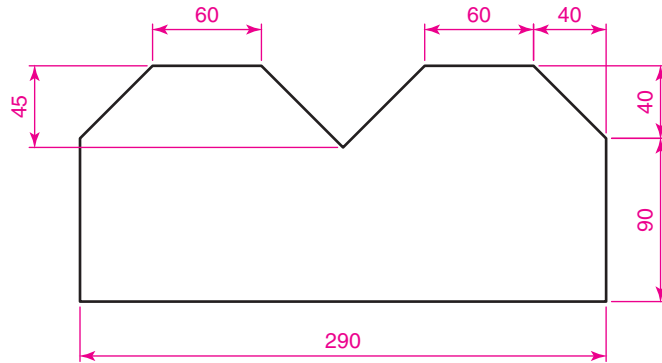

Fig. 6.9 Second example – outline for dimensions
1. Construct the outline Fig. 6.9 – a pline of width = 1.